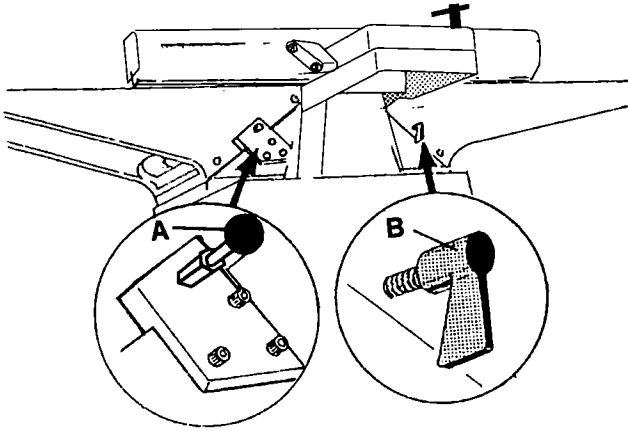
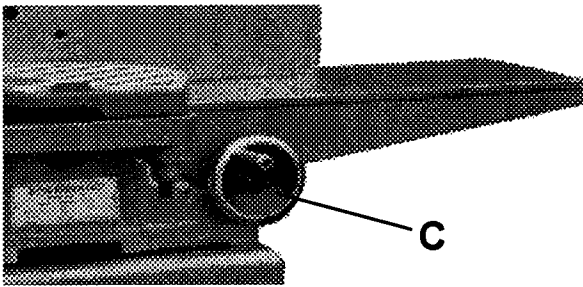

FIGURE 3
FIGURE 4
1. Pull on the spring locking round knob A in Figure 3, located at rear of infeed table, and at the same time turn handwheel C, Figure 4 to set table at desired position.
- When set, release spring loaded knob A, Figure 3.
- Loosen thumbscrew B, Figure 3.
- When set, retighten thumbscrew B, Figure 3.